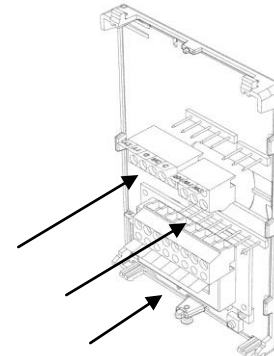

Fig.5
- 13- Gently push excess wiring back into hole **(Fig. 5)**.
- 14- Re-Install wiring terminals in correct location. **(Fig. 5)**.